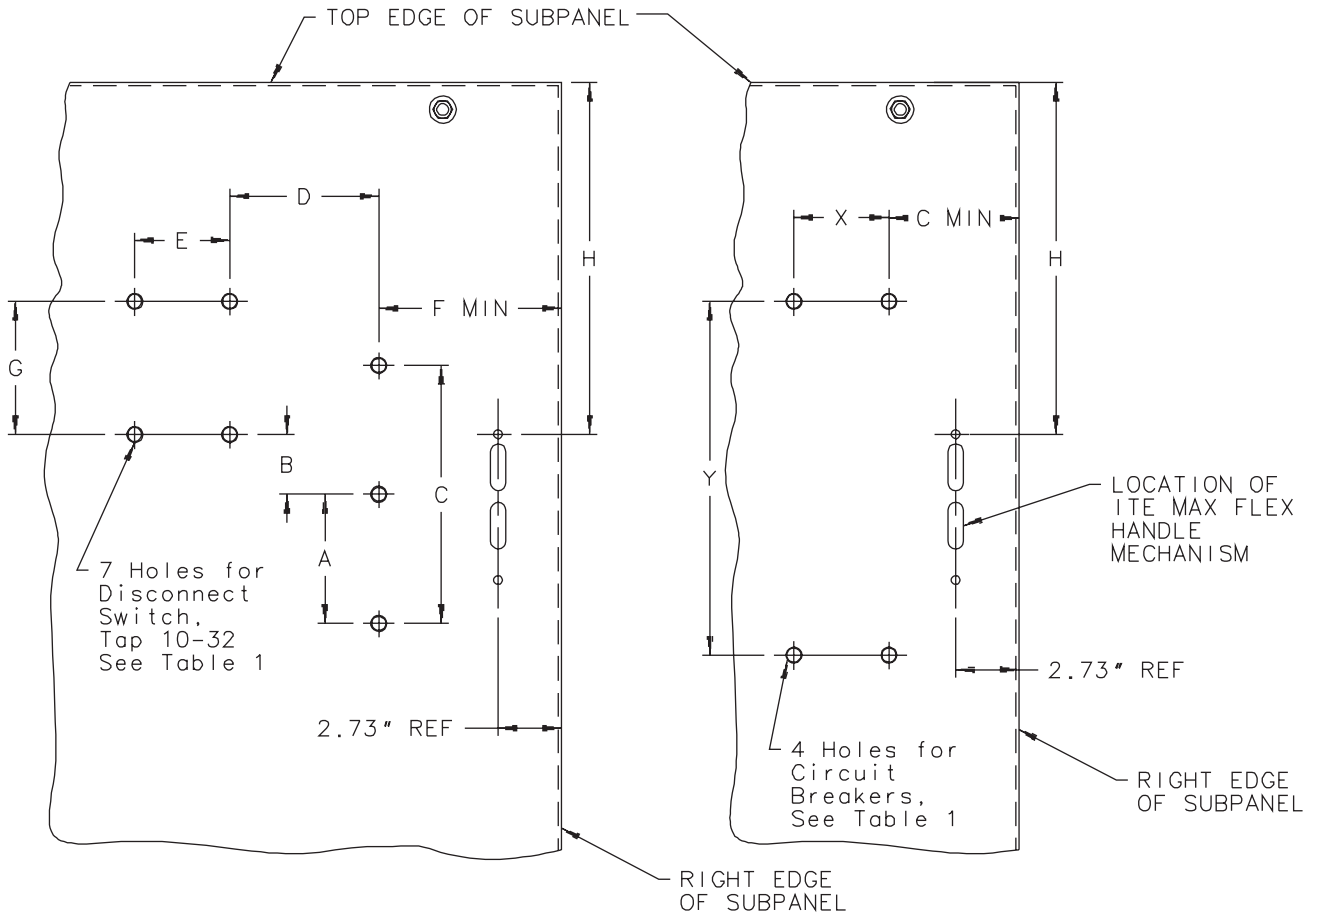

Figure 9
Step 1 – Determine disconnect hole pattern from Figure 9 and the above table. See disconnect manufacturers instructions for range of disconnect location based on cable length being used and subpanel depth selected.